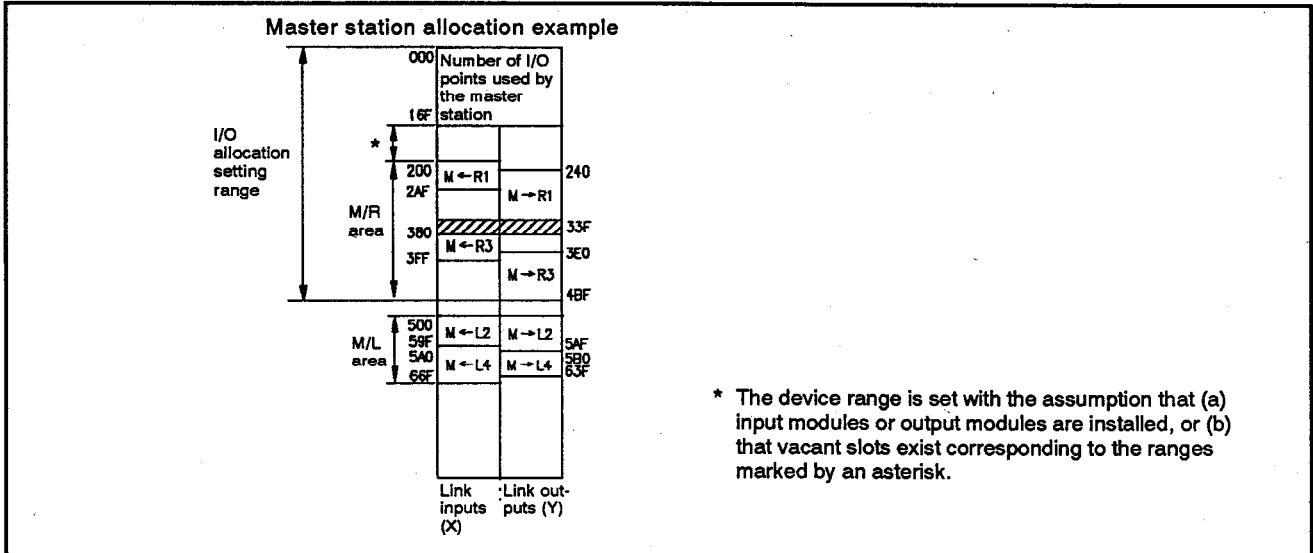

Fig. 7.45 Allocation Example
Fig. 7.45 shows the link parameter I/O allocation
When allocating inputs and outputs, the device range is set with the assumption that the input modules or output modules are loaded or that vacant slots exist corresponding to the ranges marked by asterisks in both items of Fig. 7.45 and in the "ML area" in Item (b) of Fig. 7.45.
- 24 to 26 : Range marked with an asterisk (170 to 1FF) in Fig. 7.45, Item (a)
- 43 : Vacant slot between remote I/O stations 1 and 3 (shaded area in Fig. 7.45, Item (a))
(2) When the M/R area is allocated after the M/L area